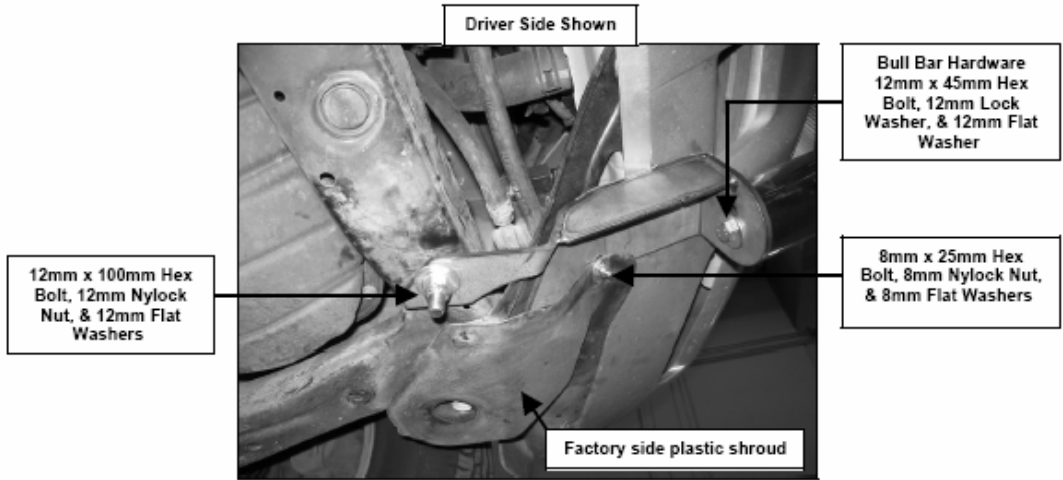

Figure 4
**4.** Position Driver Side Mounting Bracket to vehicle and align holes on the bracket to factory holes. The rear most hole to the Mounting Bracket mounts to the cross bar member using (1) 12-1.75mm x 100mm Hex Head Bolt, (1) 12mm Nylock Nut, and (2) 12mm Flat Washers. The front hole on the Mounting Bracket mounts to the factory bumper support by using (1) 8-1.25mm x 25mm Hex Head Bolt, (1) 8mm Nylock Nut, and (2) 8mm Flat Washers, use this hardware to re-attach the side factory plastic shroud (Figure 4). **NOTE:** To ease the
**5.** Position Bull Bar onto Mounting Brackets and loosely attach it with the included (2) 12-1.75 x 45mm Hex Head Bolts, (2) 12mm Flat Washers, and (2) 12mm Lock Washers (Figure 4).